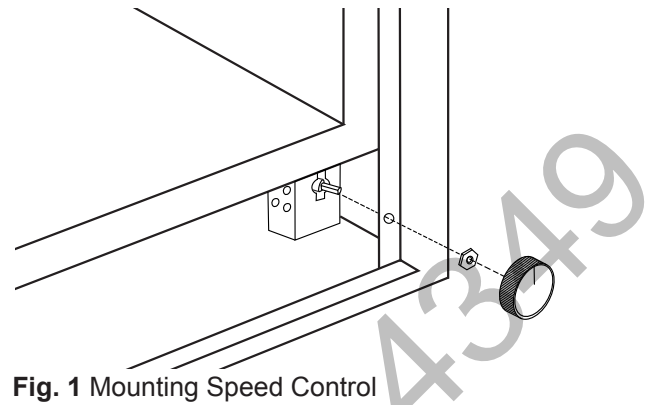

Fig. 1 Mounting Speed Control
2. Place the stem of the speed control into the hole for the control. Place the mounting nut over the plastic stem and tighten. (See Fig. 1)
4. Complete the connection of the speed control and temperature sensor. (See Figs. 1 & 3)